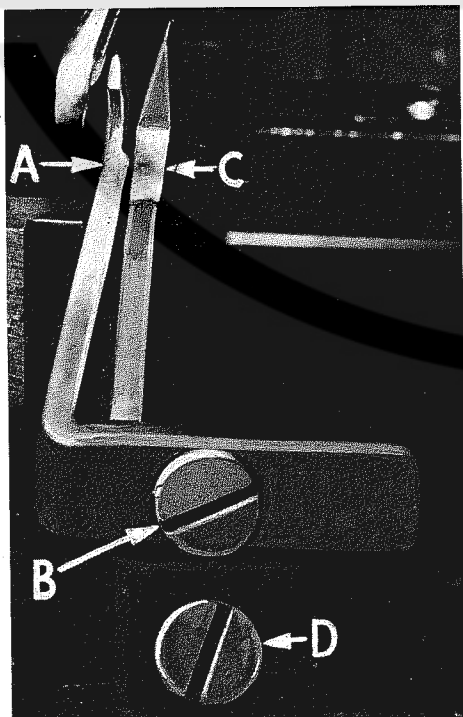

Fig. 6
Set rear needle guard (A, Fig. 6) as high as possible, without interfering with either lower looper or movement of lower knife holder, but still in position to deflect needle forward .002-.004 inch. Screw (B) is used to set rear needle guard. Make sure there is no interference between rear needle guard and lower looper.
Assemble front needle guard (C, Fig. 6). When lower looper is springing needle off backguard, set front needle guard as close as possible to needle without touching. Screw (D) is used to adjust and set front needle guard. After this setting make sure there is no interference between needle guards and differential feed dog.